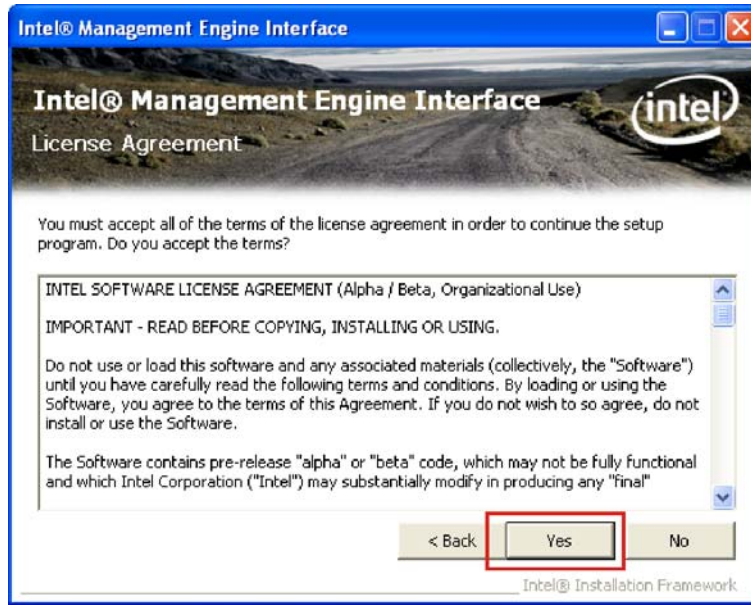

Figure 6-34: AMT HECI License Agreement
Step 6: The License Agreement appears (Figure 6-34).